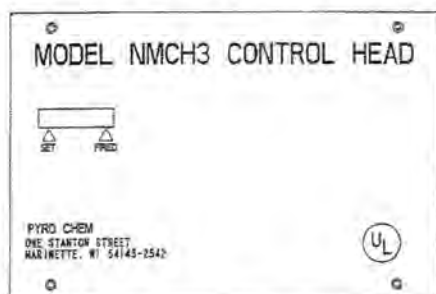

Figure 2-6a. Mechanical Control Head.
- The Model NMCH3 Mechanical Control Head is a fully mechanical control head which can be connected to the PCI-15/17/25s/35/50s/70 cylinder valve. This control head will support a fusible link detection system, a remote mechanical pull station (Model RPS-M), and a mechanical or electric shut-off valve. A micro switch (Model MS-SPDT, MS-DPDT, MS-3PDT, or MS-4PDT) can be ordered separately and field installed. There is no local manual actuation for the Model NMCH3. The Model NMCH3 control head can actuate a maximum of five (5) cylinders. See **Figure 2-6a**.